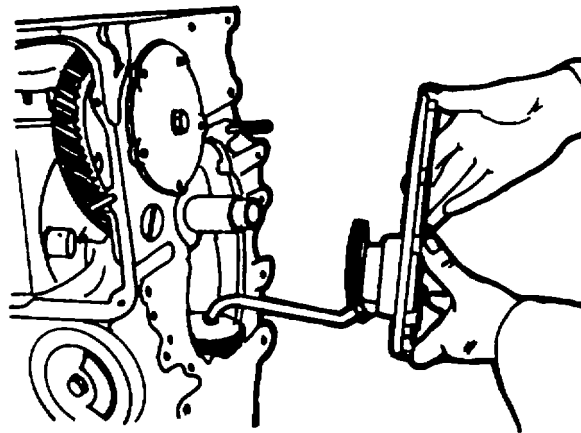

Figure 5-84. Remove Oil Pump
3. Remove the front cover with oil pump attached (figure 5-84).